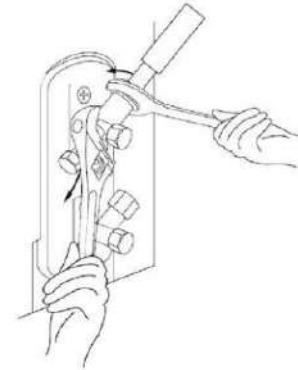

Fig. 5.10
4. Using a properly sized wrench, grip the body of the valve. Do not grip the nut that seals the service valve (see Fig. 5.10).